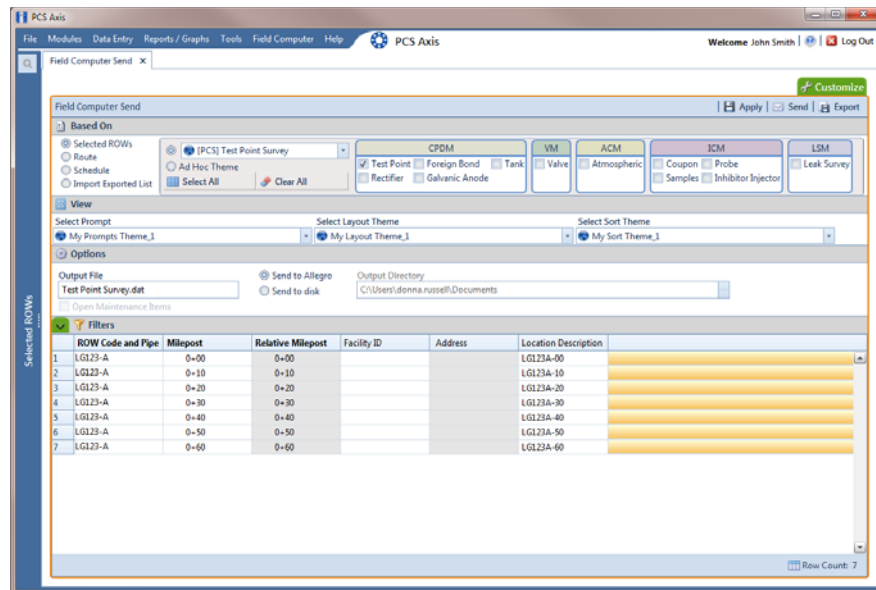

Figure 13-41. Filters
- a Click the  **Filters** tab to open the *Filters* panel (Figure 13-41, page 607).